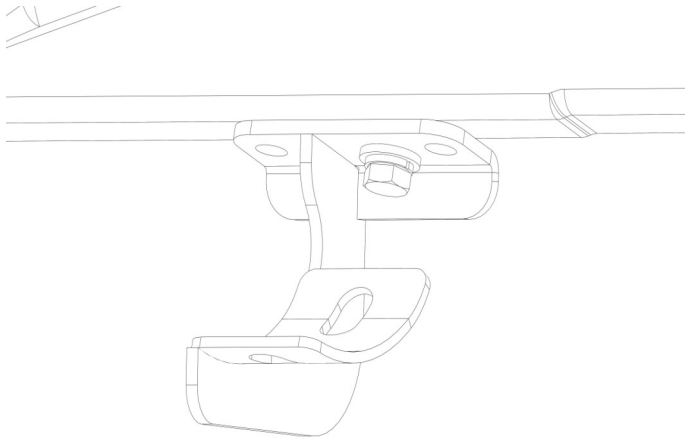
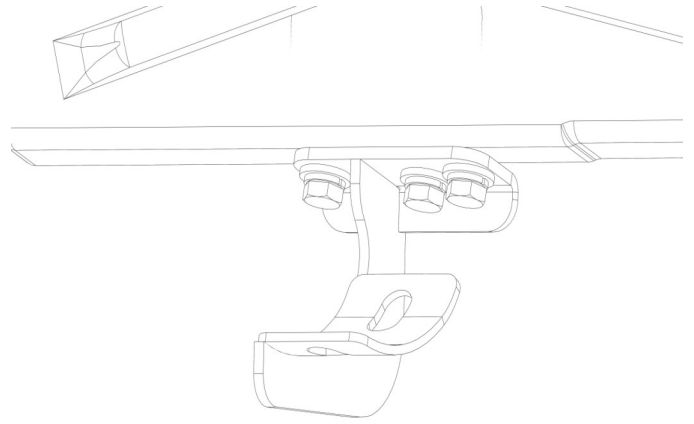

Fig 5
Fig 6
- Move to the passenger side and locate the factory hole in the pinch weld, align the center mounting point of the lower front passenger side mounting bracket with this hole (FIG. 4) . Mark the outer two holes on the lower bracket on the pinch weld and drill two 3/8" holes in the pinch weld (FIG. 5). Take the upper front passenger side mounting bracket, and the lower front passenger side mounting bracket and attach them to the pinch weld using (3) M8 hex head bolts, (3) M8 lock washers, and (3) M8 flat washers (FIG. 6). Repeat this step for the next mounting bracket.
2. Move to the passenger side and locate the factory hole in the pinch weld, align the center mounting point of the lower front passenger side mounting bracket with this hole (FIG. 4). Mark the outer two holes on the lower bracket on the pinch weld and drill two 3/8" holes in the pinch weld (FIG. 5). Take the upper front passenger side mounting bracket, and the lower front passenger side mounting bracket and attach them to the pinch weld using (3) M8 hex head bolts, (3) M8 lock washers, and (3) M8 flat washers (FIG. 6). Repeat this step for the next mounting bracket.
4. Move to the passenger side and locate the factory hole in the pinch weld, align the center mounting point of the lower front passenger side mounting bracket with this hole (FIG. 4). Mark the outer two holes on the lower bracket on the pinch weld and drill two 3/8" holes in the pinch weld (FIG. 5). Take the upper front passenger side mounting bracket, and the lower front passenger side mounting bracket and attach them to the pinch weld using (3) M8 hex head bolts, (3) M8 lock washers, and (3) M8 flat washers (FIG. 6). Repeat this step for the next mounting bracket.